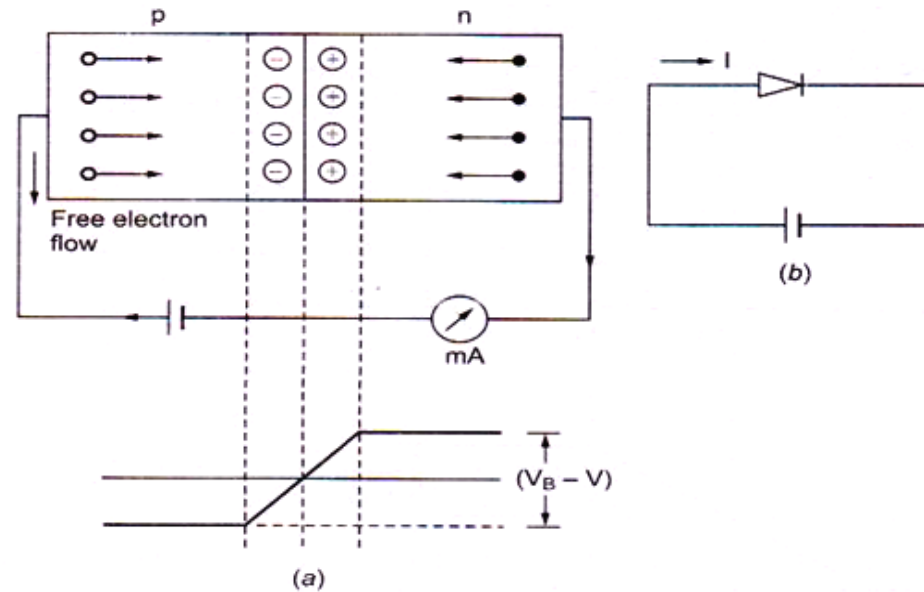

Figure 10. *Forward Biased Circuit*
- ▶ Obviously, the resultant field is weakened and the barrier height is reduced at the p-n junction [Figure 10].